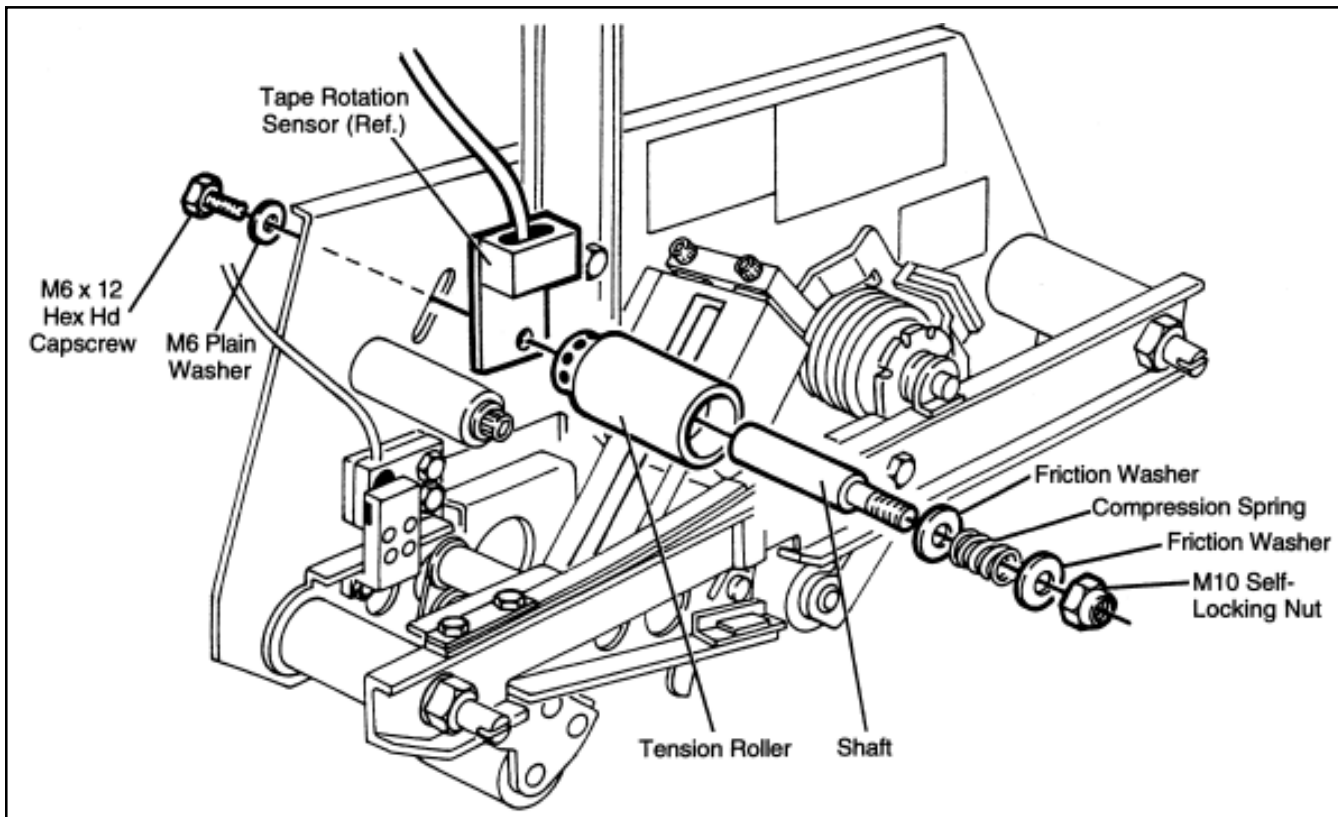

Figure 5
2. Install new parts from kit. Shaft, tension roller, washers, compression spring and hex nut and fasten to taping head side plate with M6 x 12 hex head screw and M6 plain washer. See Figure 5. Install tape rotation sensor between shaft and side plate with sensor cable pointed in same direction as box presence sensor. **Note – Tape rotation sensor REPLACES large plain washer between shaft and taping head side plate. DO NOT USE WASHER.**